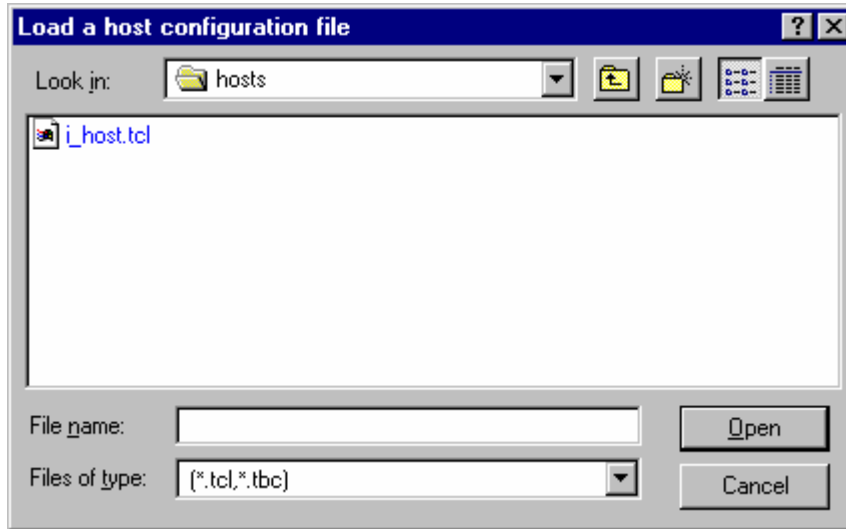

Figure 7-3. Load a Host Configuration File Dialog
- **Host Config...**—Presents a dialog box for loading a host configuration file. Figure 7-3 shows the **Host Config...** dialog box:
- **Platform Config...**—Presents a dialog box for loading a platform configuration file. This menu item remains unavailable until a host configuration file is successfully loaded. Except in name, the **Platform Config...** dialog box is identical to the box shown in Figure 7-3.
- **Target Config...**—Presents a dialog box for loading a target configuration file. This menu item remains unavailable until a platform configuration file is successfully loaded. Except in name, the **Target Config...** dialog box is identical to the box shown in Figure 7-3.
- **Load User Config...**—Presents a dialog box for loading a user configuration file. This menu item remains unavailable until a host configuration file is successfully loaded. Except in name, the **Load Config...** dialog box is identical to the box shown in Figure 7-3.